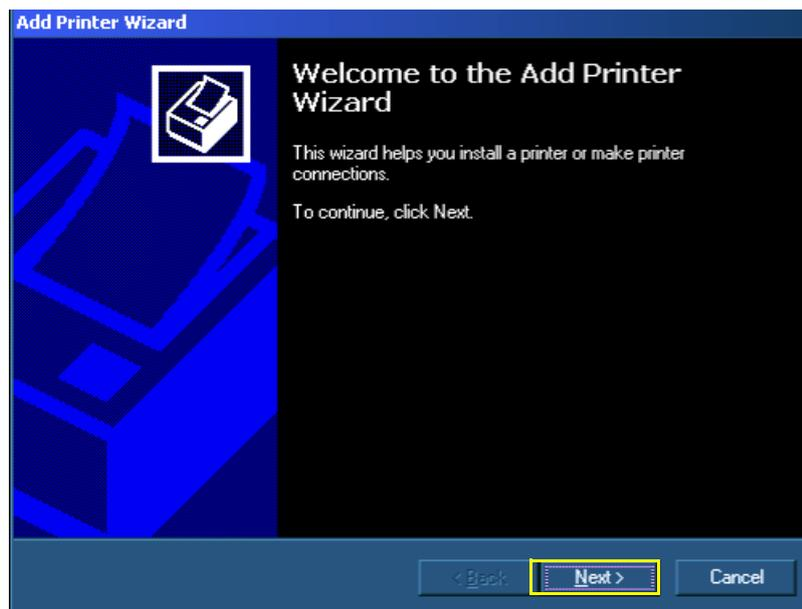

Figure 8-138 Add Printer Wizard
9.) When the *Add Printer Wizard* opens, click **Next** - see Figure 8-138.